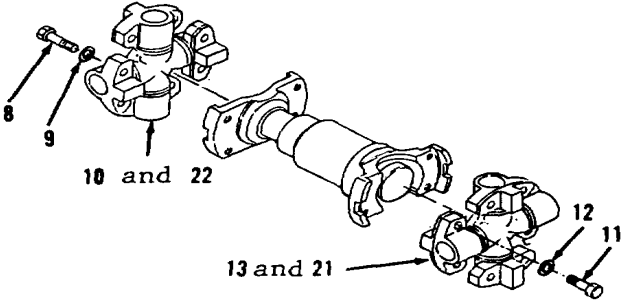
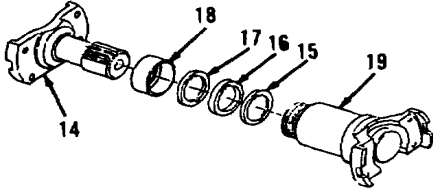

Figure 10-2.
Figure 10-3.
1. Remove four bolts (8), washers (9) and items 10 and 22 as an assembly (Figure 10-2) from drive assembly.
2. Remove four bolts (11), washers (12) and items 13 and 21 as an assembly.
3. Unscrew retainer (18). Slide retainer (18), washer (17), seal (16) and washer (15) onto yoke (14, Figure 10-3).